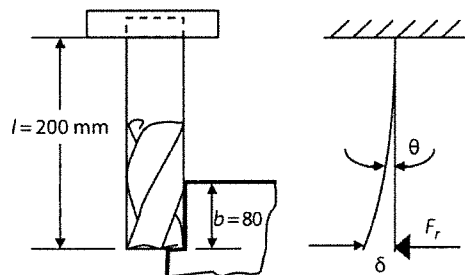

Fig 1: Question 2
2. In milling operation, a 4-fluted end mill of diameter 75 mm is used to machine a 200 mm wide sidewall on a steel workpiece (See Fig. 1). The axial depth of cut is 80 mm and the radial depth of cut is 5 mm. Recommended maximum uncut chip thickness is 0.2 mm and the cutting velocity is 100 m/min. The length of the end-mill is 200 mm up to clamping point of the tool holder. The specific cutting energy and Young's modulus for the steel are 0.08 W/cm³/min and 400 kN/mm². [15]